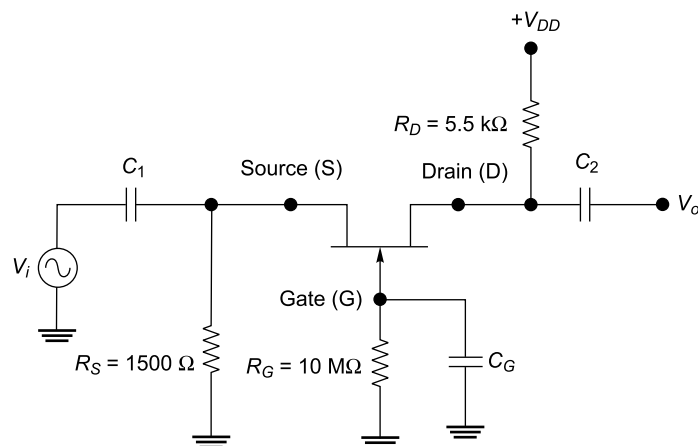

Fig. 1.93
51. Figure 1.93 shows a common gate JFET amplifier circuit. Determine the voltage gain input resistance and output resistance of the amplifier. Assume that $g_m = 5000 \mu\text{S}$ and $r_d = 55 \text{ k}\Omega$.